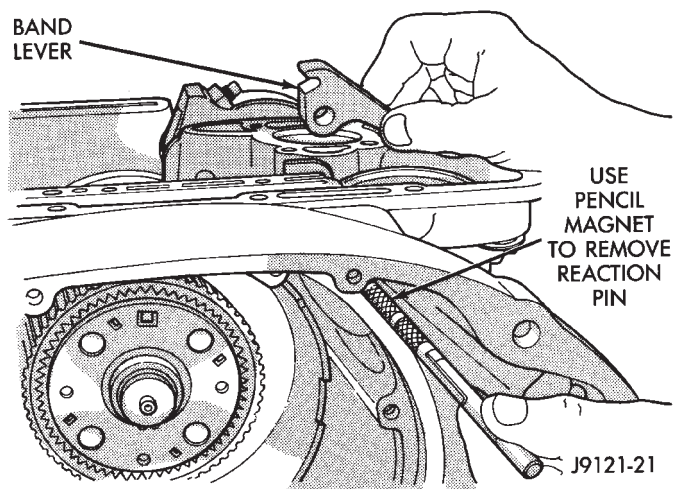

Fig. 25 Removing Front Band Lever And Pin—46RH
(25) Remove front band reaction pin and lever. Start pin through lever and out of case bore with drift or punch. Then use pencil magnet to withdraw pin completely (Fig. 25).